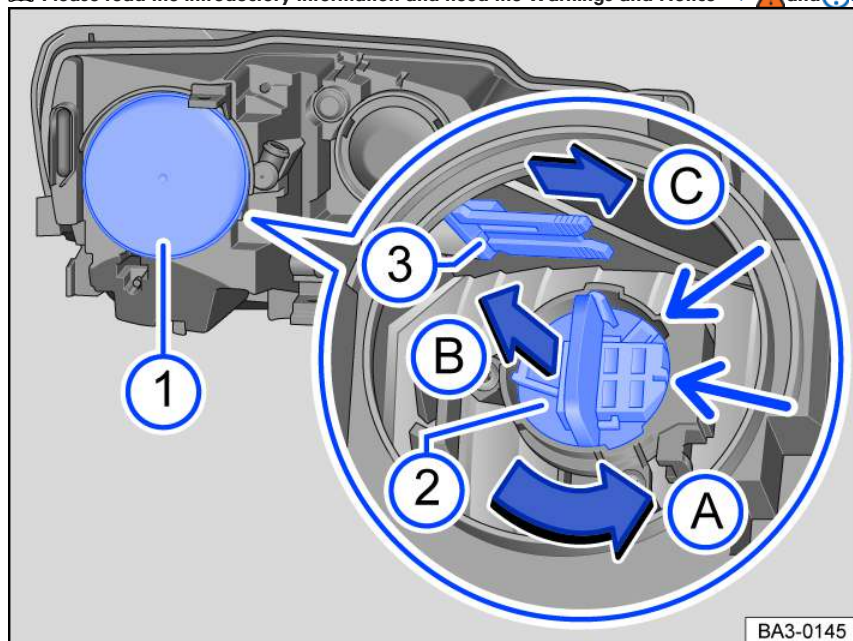

Fig. 127 In the engine compartment: Rear view of the left-side headlight.
3. Remove the rubber cover *fig. 127* ① on the rear side of the headlight.
4. Turn the bulb holder *fig. 127* ② in the direction of the arrow (arrow A) until the retaining tab of the bulb holder is situated in the recesses in the bulb housing (small arrows). Then remove the bulb holder ② toward the rear (arrow B).
6. Insert the bulb holder *fig. 127* ② into the headlight and turn it in the opposite direction of the arrow (arrow A) as far as it will go.
7. Fit the rubber cover *fig. 127* ① on the rear side of the headlight.
3. Remove the rubber cover fig. 127  on the rear side of the headlight.
4. Remove the bulb holder fig. 127  in the direction of the arrow (arrow .
6. Insert the bulb holder fig. 127  into the headlight in the opposite direction to the arrow (arrow  and push it all the way in.
7. Fit the rubber cover fig. 127  on the rear side of the headlight.